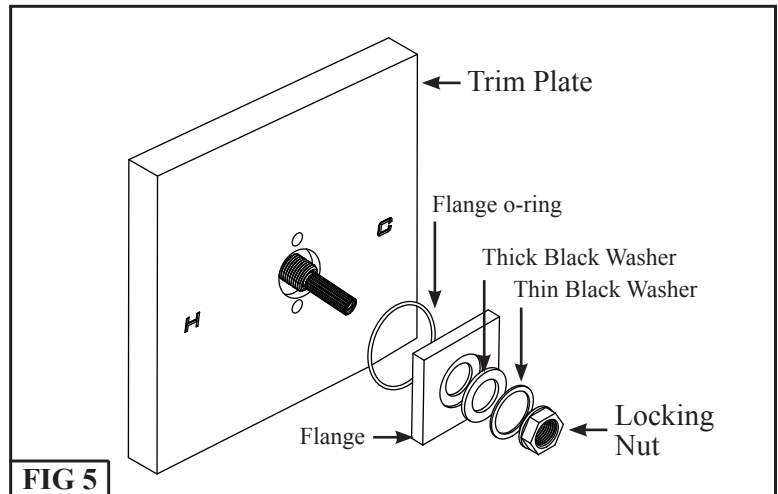

FIG 5
Step 4: Install the Strap assembly onto the Stem Extension and thread the Top Screw into the Stem. See **FIG 5**.
Step 5: Install the lever by inserting the lever into the strap and locking the lever into place with the back cap. See **FIG 5**.